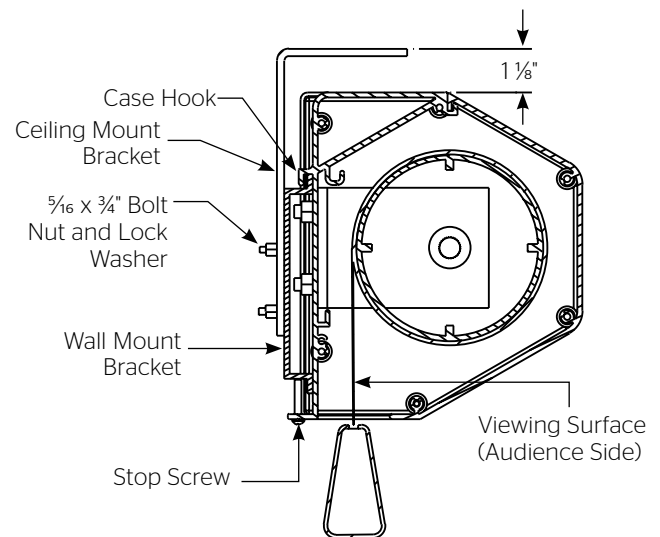

Figure 2
6. Mount the screen case on the wall bracket as shown in figure 2. Be sure the case is fully seated on the bracket. Tighten the stop screws against the wall bracket.
4. Mount the screen on the wall bracket as shown in figure 2. Be sure the case is fully seated on the bracket. Tighten the stop screws against the wall bracket.